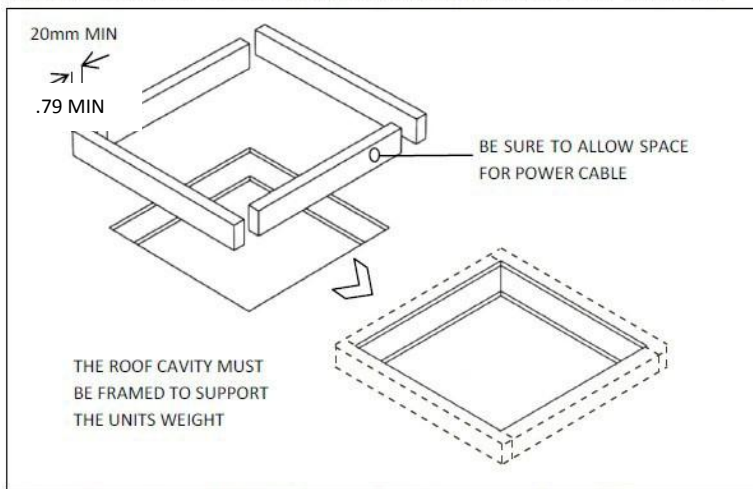

Fig 4: The roof cavity **MUST** be boxed with timber to provide a solid structure
6. Close the strain relief cover and housing by hand. Place the connector assembly into Molex tool as shown in **Figure 4**. Squeeze the tool until the connector bottoms out and the locking latches engage on both sides. OR alternately, squeeze the top and bottom closed with tongue and groove pliers as shown in **Figure 4.1**. Pliers must be a minimum of 10" long. Squeeze firmly on both sides, squarely across the connector between ribs A and B to ensure wires seat completely into slots.